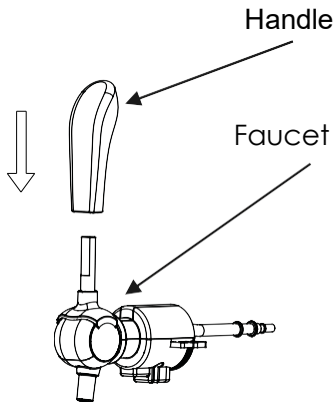

Figure 3
2. Install the tap handle on the tap and ensure both end fit together perfectly. (Figure3)